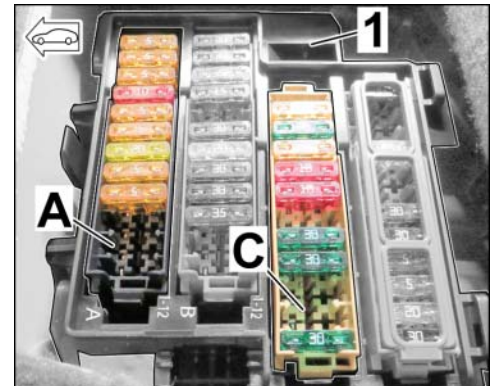

Figure 16
- 3.3.3 Connect power supply as shown in the table (⇒ *Figure 16*).
- 3.3.5 Protect the front camera power supply with new fuses (⇒ *Figure 16 -A11 and C11-*).